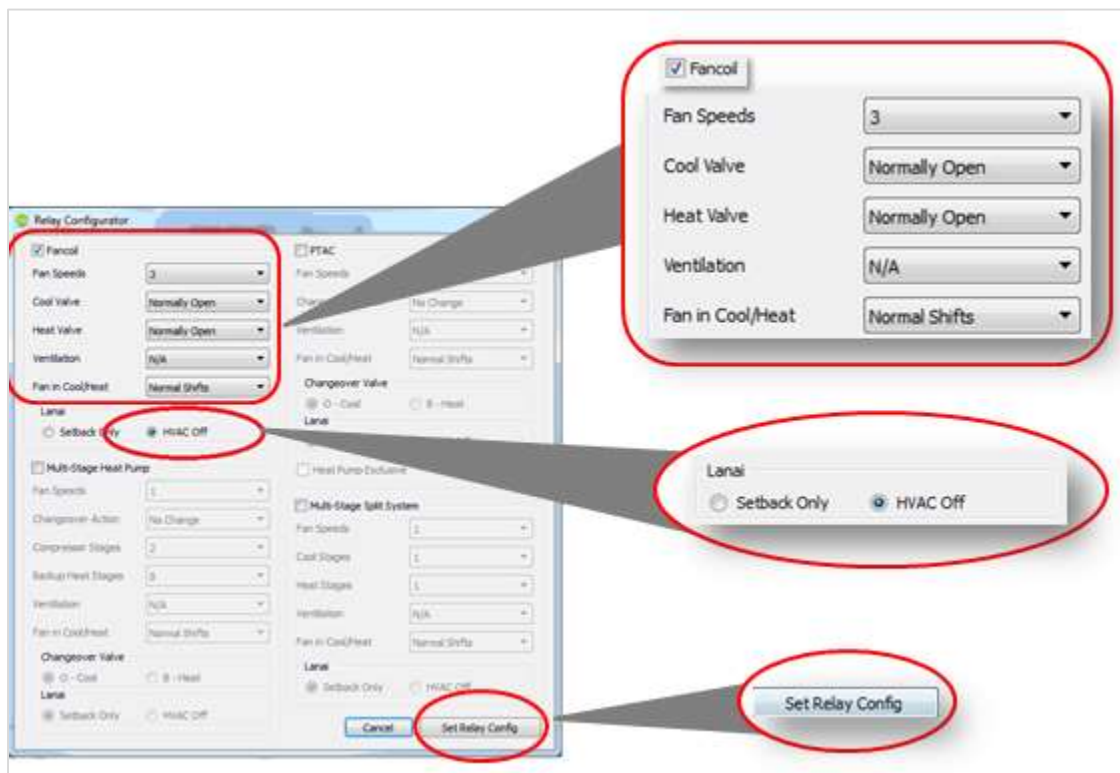

Figure 7
- Check the **Fancoil** box (Figure 7).